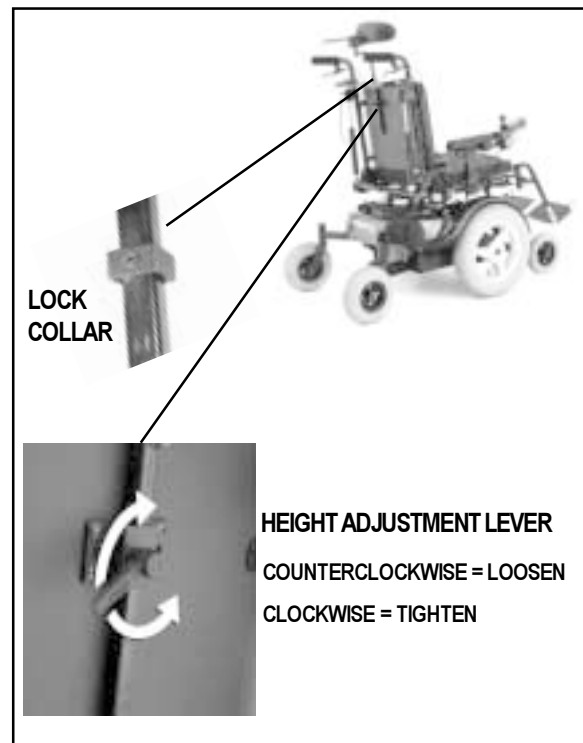

FIGURE 14C. Headrest Height
1. Turn the height adjustment lever counterclockwise to loosen (see figure 14C).
The lock collar is used to set the headrest height (see figure 14C). If the headrest is removed for any reason, upon reinstalling it, the lock collar will rest on the height adjustment lever mount, thus returning the headrest height to its previous setting.